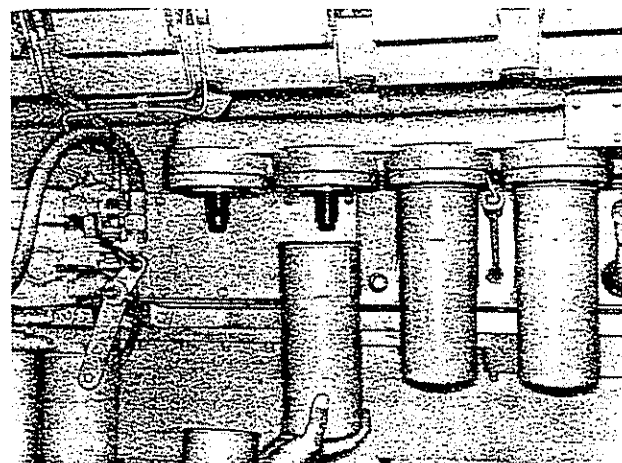

Fig. 2-16, (K21907). Installing "spin-on" lubricating oil filter — KT/KTA38 Engine
3. Position element to the filter head, Fig. 2-16. Tighten by hand until the seal touches the filter head, tighten an additional one-half to three-fourths turn.